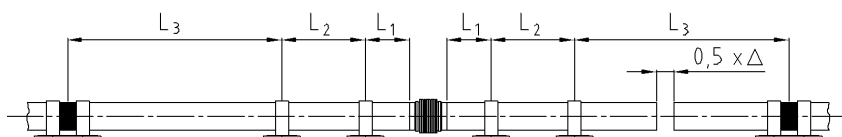

Fig. 4
- Align the pipeline, distance between pipe guides according to fig. 4, table 4 and diagram 2